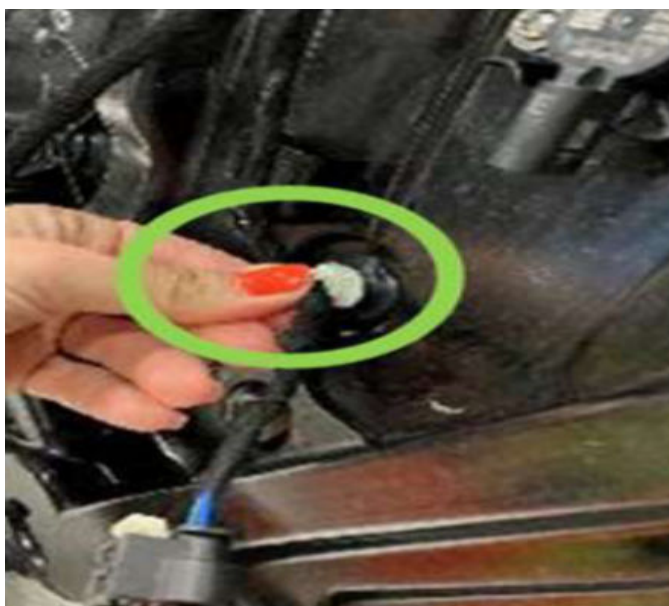

Fig. 34
38. Push in the clip above the crash sensor Fig. 34.